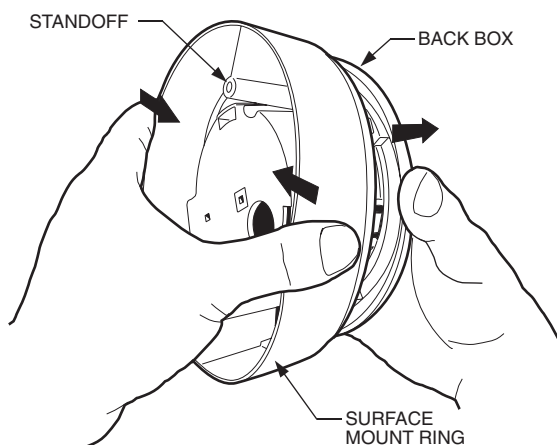

Figure 5. How to Remove Surface Mount Ring from Back Box
3. Remove the surface mount ring from the back box. Refer to Figure 5 and complete the following steps:
2. Remove the surface mount ring from the back box. Refer to Figure 5 and complete the following steps:
1. Remove the surface mount ring from the back box. Refer to Figure 5 and complete the following steps: